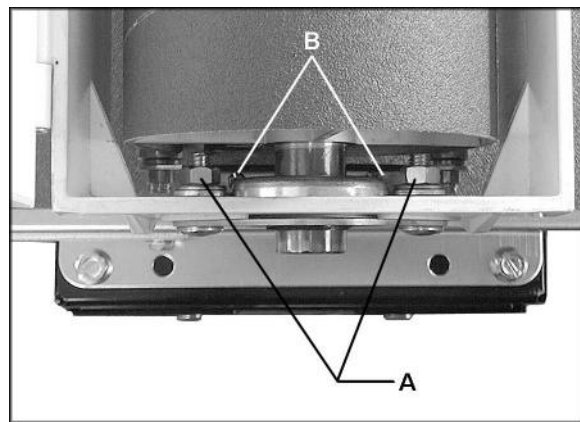

Figure 29
- Loosen all four hex nuts on the bearing bolts (A, Figure 29). This will allow both tension rollers to drop to their lowest position. (NOTE: Figure 29 only shows outboard end of drum. Adjustments must be made on *both ends* of drum.)
- Tighten the four hex nuts (A, Figure 29). Both tension rollers are now positioned about 1/16" below the bottom of the sanding drum.
You can increase or decrease tension roller pressure by turning the screws on the tension roller brackets (B, Figures 29 & 30).
2. If both tension rollers are causing snipe then tighten all four hex nuts (A, Figure 29) at this position.